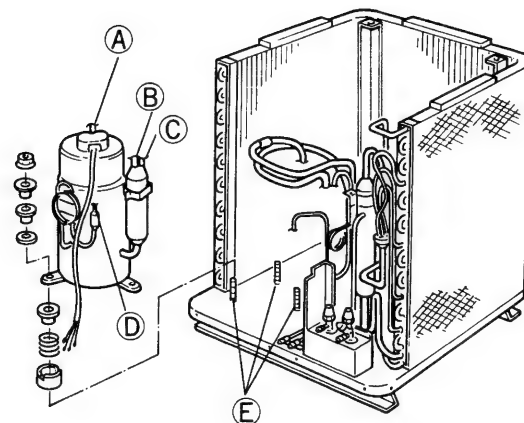

Fig. 17
- ① Use an oxyacetylene torch to cut the four places (A), (B), (C), and (D) where the tubing is welded to the compressor.
- ② Remove the three nuts (E) fixing the compressor, and raise the compressor to remove it. Fig. 17